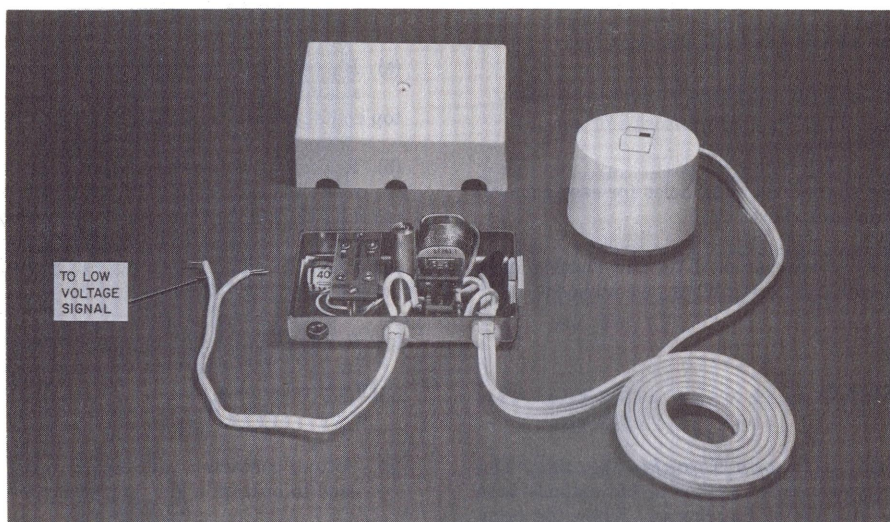

Fig. 8—KS-20614, List 2 Relay Switch
3.12 KS-20614, List 2 Relay Switch (Fig. 8 and 29)